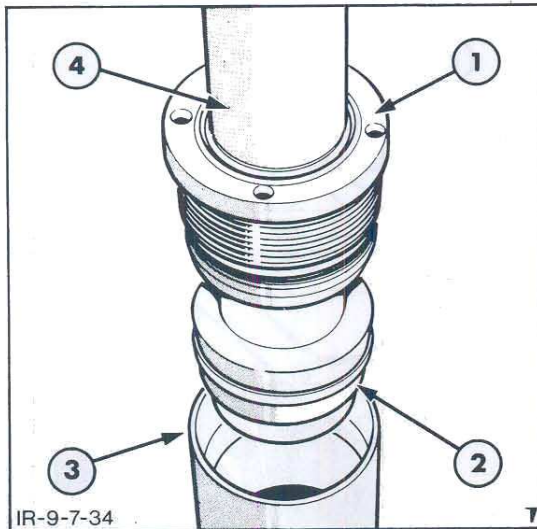

Figure 30
3. Pull the cylinder rod, gland and piston from the barrel, Figure 30.